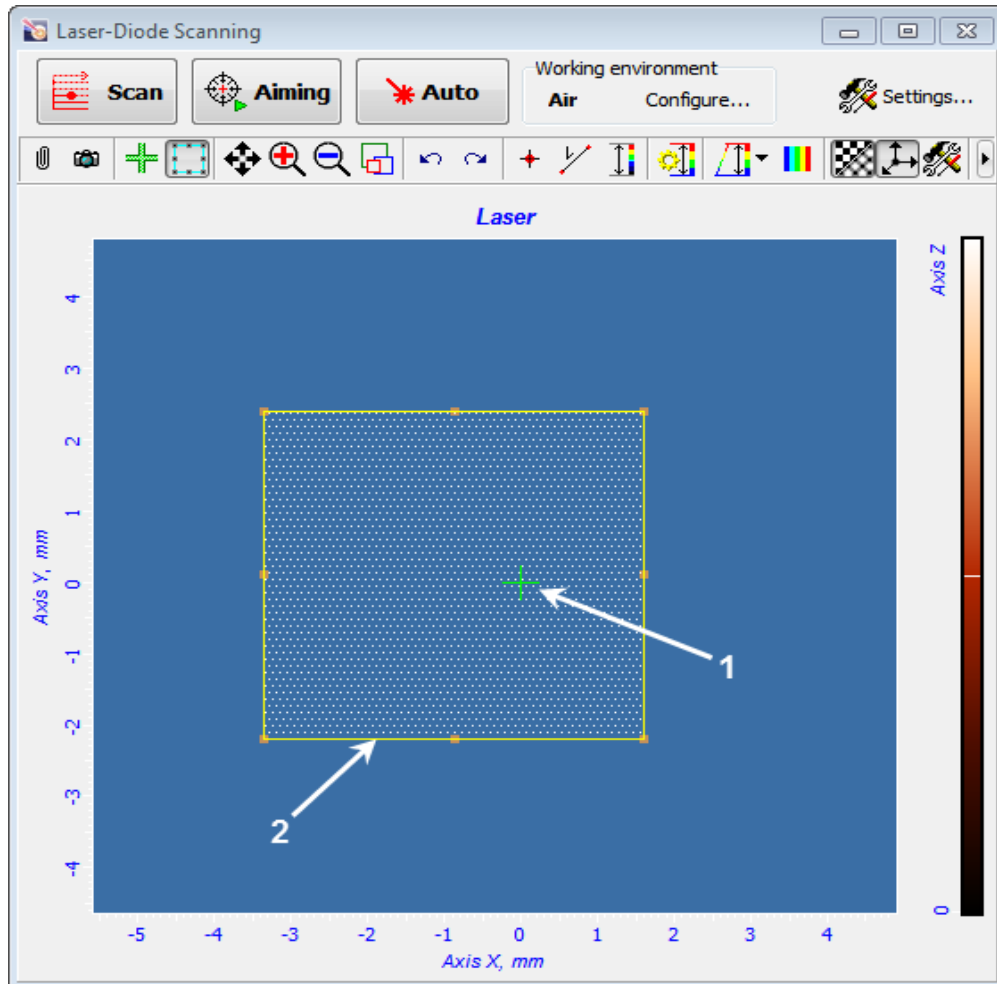

Fig. 6-42. **Laser-Diode Scanning** window
- Enable modifications of size and position of the search area by clicking the  button in the Control panel of the **Laser-Diode Scanning** window (Fig. 6-42).
- Change size and position of the scan area with the mouse (pos. 2 in Fig. 6-42).